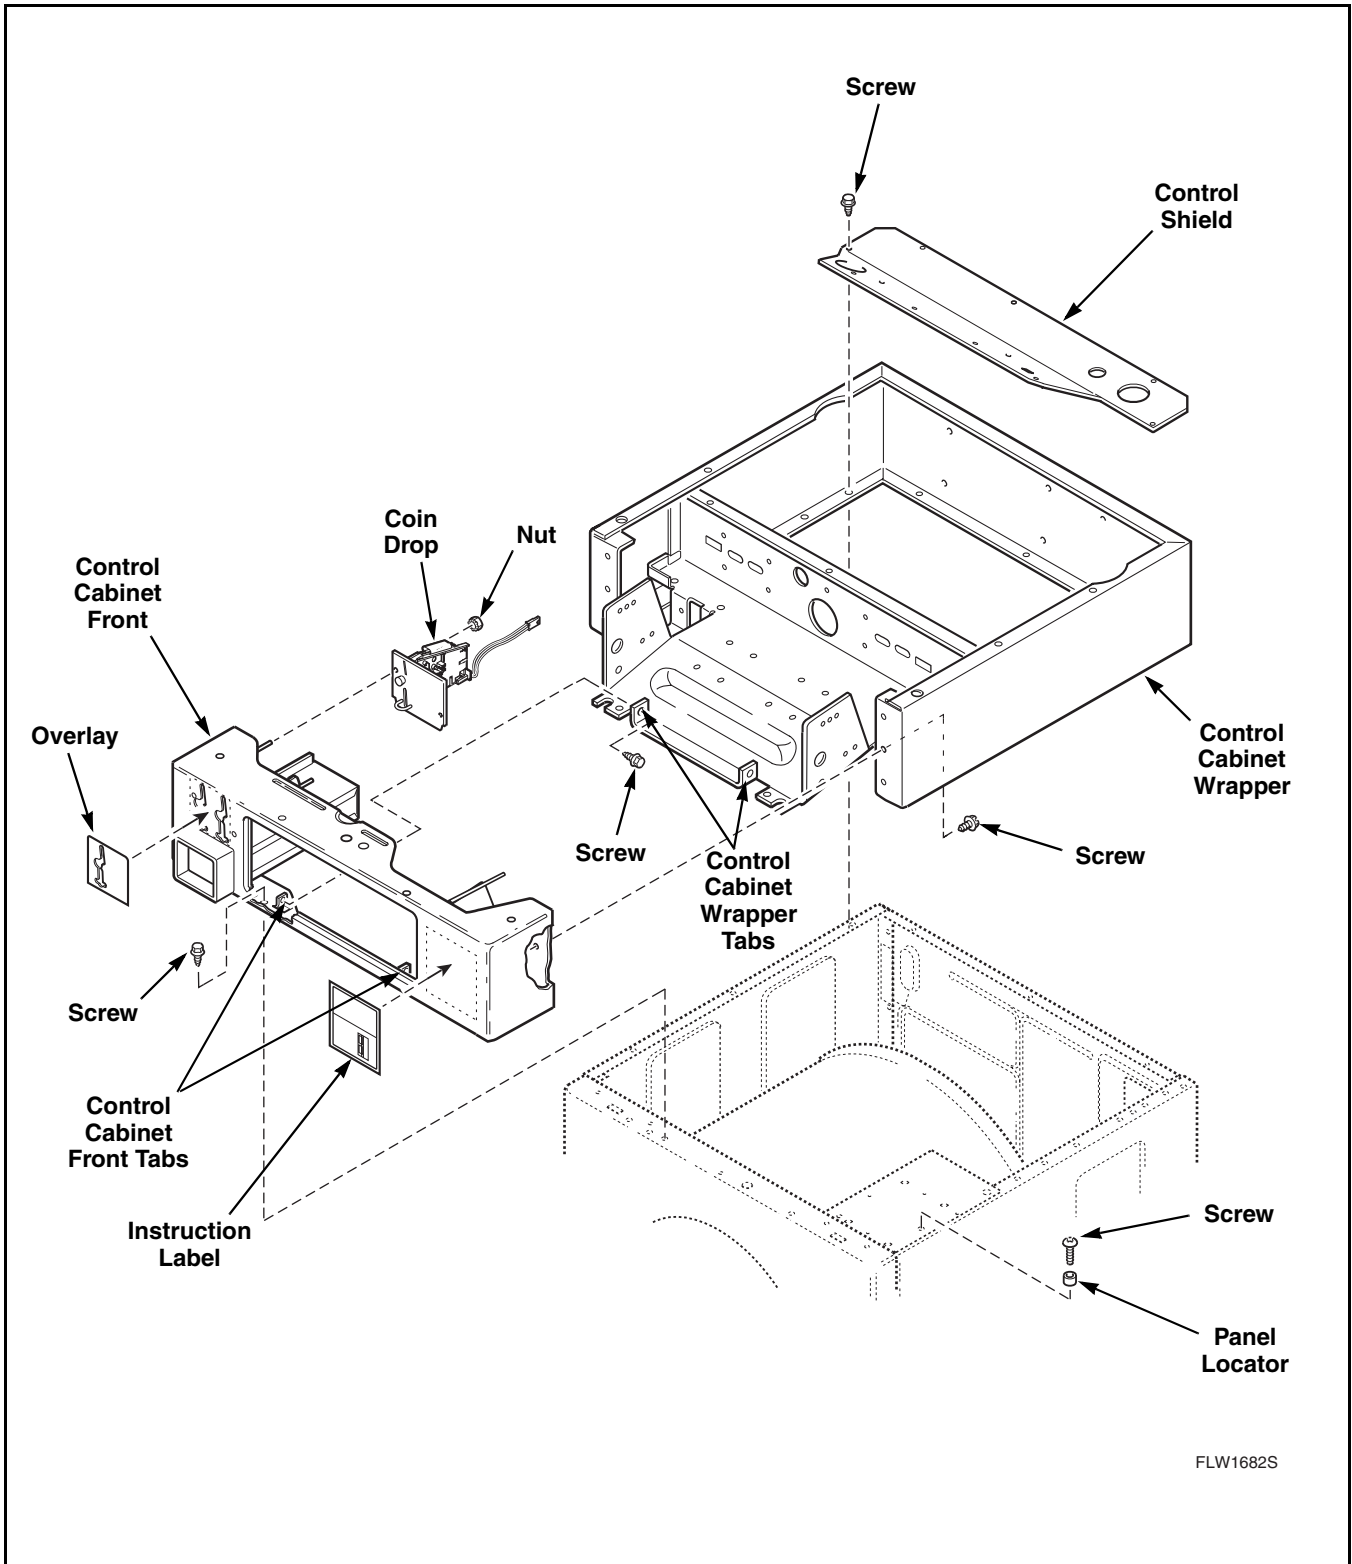

Figure 23
- f. Remove two screws holding bottom front flange of control cabinet front to top flange of washer front panel. Refer to *Figure 23*.
- g. Remove three screws (per side) holding control cabinet front to front flange of control cabinet wrapper. Refer to *Figure 23*.
- h. Remove two screws holding control cabinet wrapper tabs to control cabinet front tabs. Refer to *Figure 23*.
- i. Carefully pull control cabinet front straight out and away from control cabinet wrapper. Refer to *Figure 23*.